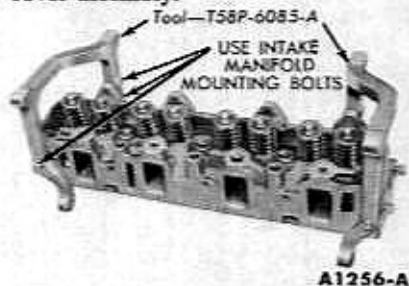

FIG. 18—Cylinder Head Holding Fixtures
2. Remove the cylinder head bolts, and then install the cylinder head holding fixtures (Fig. 18).